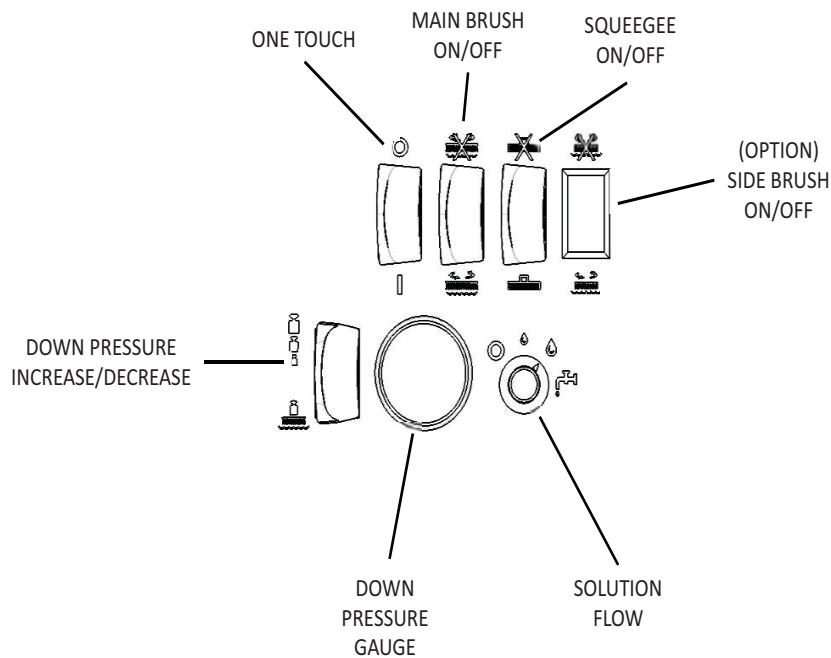

Fig. 1: Control Settings, before “One-Touch” selection
2. Ensure that the squeegee and brush switches (to the right of the green one-touch switch) are in the “on” position. Set the brush pressure switch to the lowest setting required for the scrubbing application. Set the solution control knob to the low flow position. (See Fig. 1)